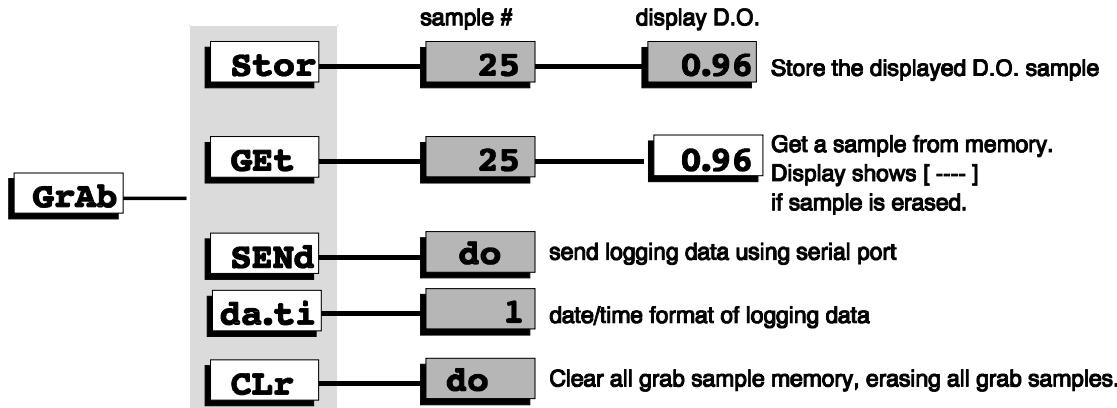

Figure 23 Grab sample menu
3. From the grab sample menu select [ Stor ]. Refer to figure 23.